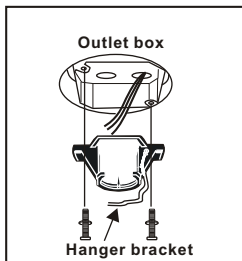

Figure 5
Step 1. Secure the hanger bracket to the ceiling outlet box using screws and lock washers included with your outlet box, (Fig.5)